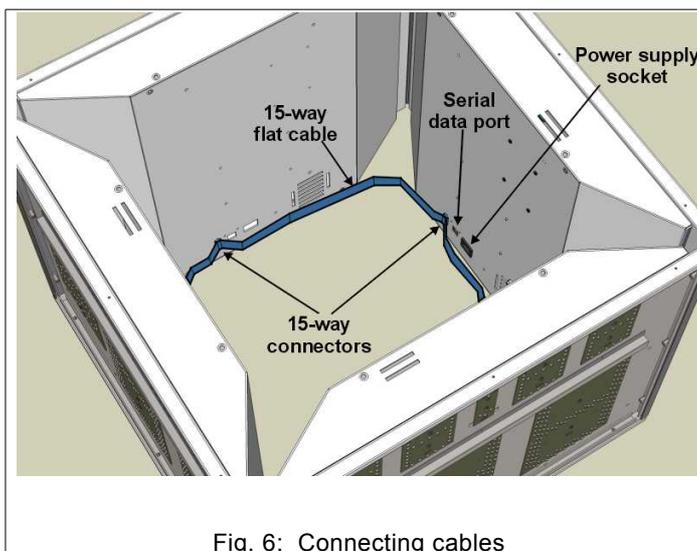
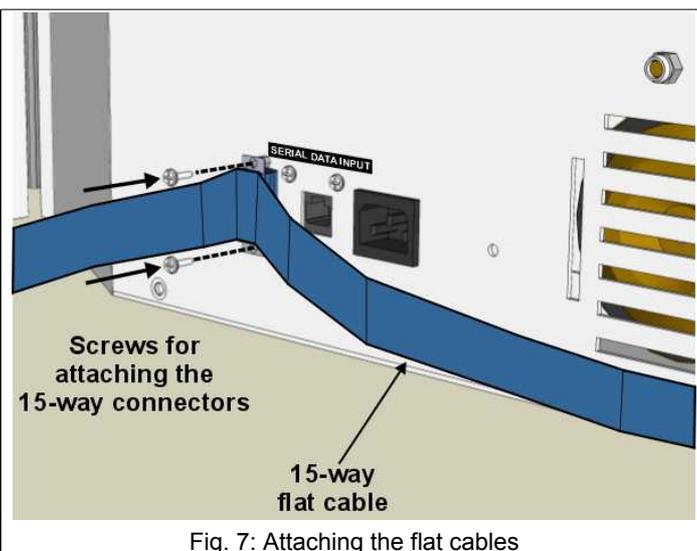

Fig. 6: Connecting cables
Fig. 7: Attaching the flat cables
Once the various modules of a scoreboard have been assembled, you may proceed to their electrical connection. On the back of each module the following connectors can be found (Fig. 6, Fig. 7):
1. Insert a middle masculine connector (not an end connector) of the flat cable into the 15-way female connector of the module containing the power supply socket (Fig. 6, Fig. 7).
3. Secure the 15-way connectors to the various modules by using the screws provided (Fig. 7).